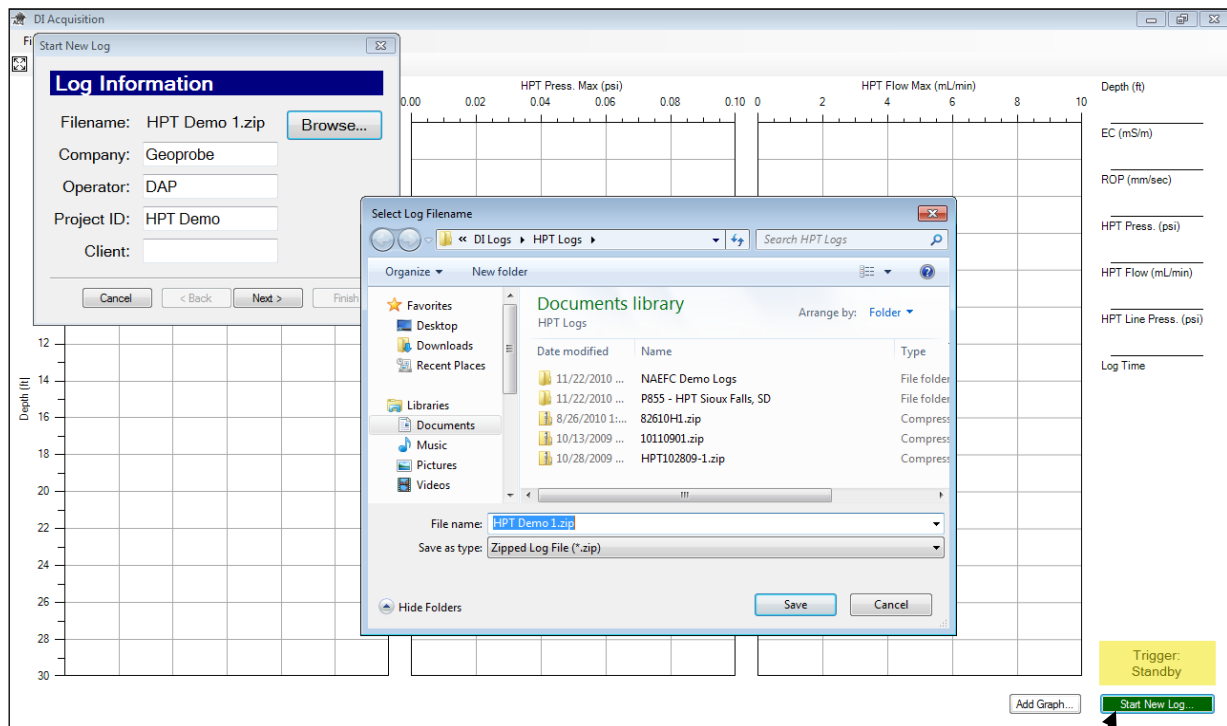

Figure 5.3: DI Acquisition Software – Start New Log Sequence
3. Select “Start New Log”. The software will request log information and have you browse for a storage location and create and save a file name for the log (Fig. 5.3). You may choose to create a new project folder at this point which your log will be saved to.